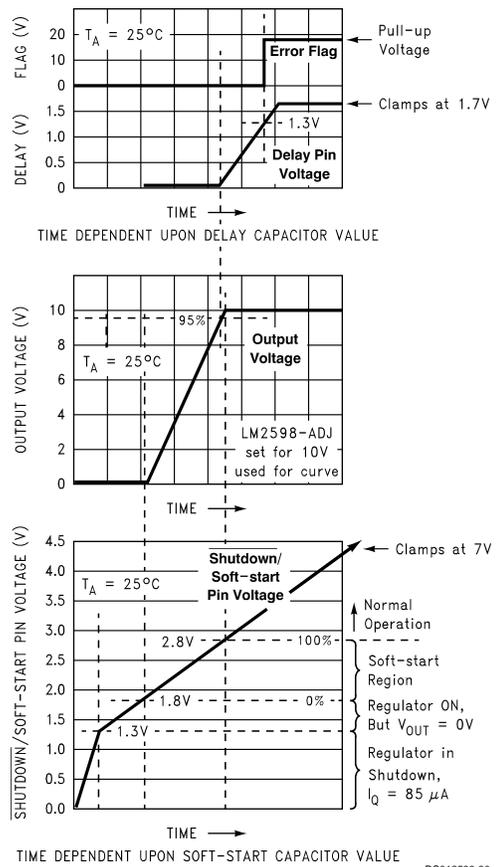
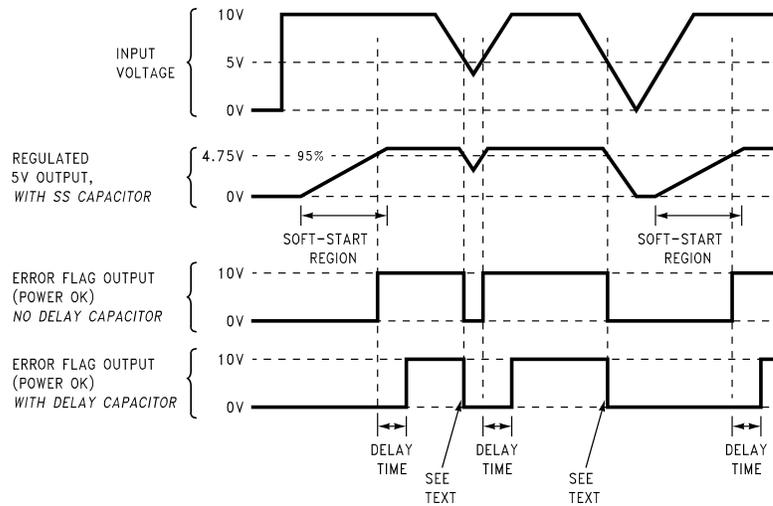

FIGURE 13. Soft-start, Delay, Error, Output
FIGURE 14. Timing Diagram for 5V Output
C_{SS} — A capacitor on this pin provides the regulator with a Soft-start feature (slow start-up). When the DC input voltage is first applied to the regulator, or when the Shutdown /Soft-start pin is allowed to go high, a constant current (approximately $5 \mu A$) begins charging this capacitor). As the capacitor voltage rises, the regulator goes through four operating regions (See the bottom curve in Figure 13).
3. Soft-start Region. When the \overline{SD}/SS pin voltage is between 1.8V and 2.8V ($@ 25^\circ C$), the regulator is in a Soft-start condition. The switch (Pin 1) duty cycle initially starts out very low, with narrow pulses and gradually get wider as the capacitor \overline{SD}/SS pin ramps up towards 2.8V. As the duty cycle increases, the output voltage also increases at a controlled ramp up. See the center curve in Figure 13. The input supply current requirement also starts out at a low level for
Note: The lower curve shown in Figure 13 shows the Soft-start region from 0% to 100%. This is not the duty cycle percentage, but the output voltage percentage. Also, the Soft-start voltage range has a negative temperature coefficient associated with it. See the Soft-start curve in the electrical characteristics section.
C_{DELAY} — Provides delay for the error flag output. See the upper curve in *Figure 13*, and also refer to timing diagrams in *Figure 14*. A capacitor on this pin provides a time delay between the time the regulated output voltage (when it is increasing in value) reaches 95% of the nominal output voltage, and the time the error flag output goes high. A 3 μA constant current from the delay pin charges the delay capacitor resulting in a voltage ramp. When this voltage reaches a threshold of approximately 1.3V, the open collector error flag output (or power OK) goes high. This signal can be used to indicate that the regulated output has reached the correct voltage and has stabilized.